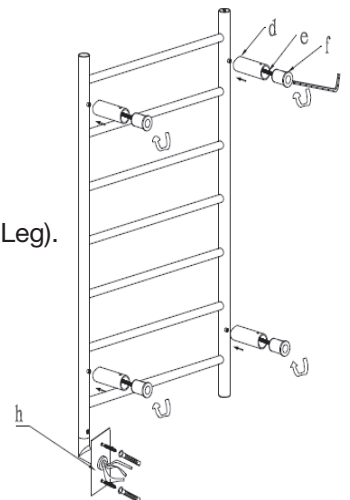

Figure 2
Step 2: Installing metal wall legs (figure 2)
- o **g**: Set Screw (this part may already be installed inside the Metal Wall Leg) (see Figure 2).
- o Set Screw **g** is inserted in Metal Wall Leg **d** (see Figure 2).